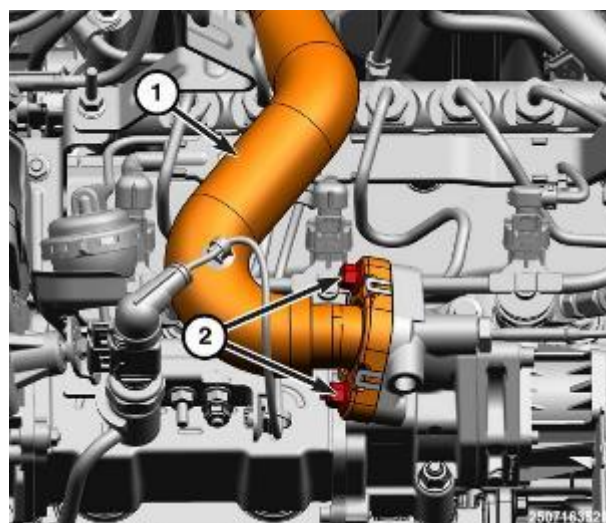

Figure 104 – Lower EGR Tube
20. Remove the lower EGR tube bolts (2) and the EGR tube (1) (Figure 104).